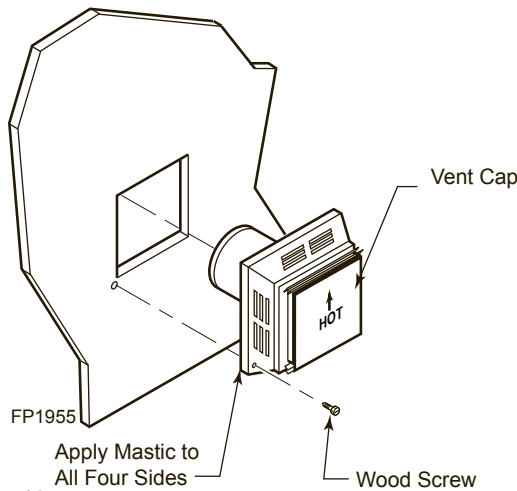

Figure 16 -
4. Apply a bead of non-hardening mastic around the outside edge of vent cap. Position the vent cap in the center of the 7½" (190 mm) or 9½" (241 mm) hole on the exterior wall with the word "UP" on the vent cap facing up. Insure proper clearance of 1" to combustibles is maintained. Attach the vent cap with four wood screws supplied. *Figure 16*